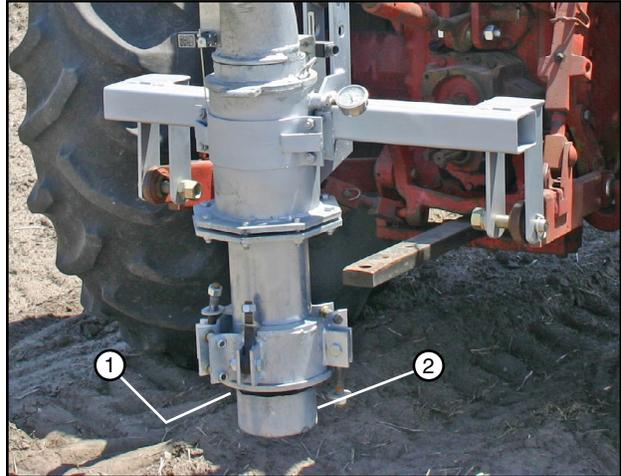

Figure 36-1 1. Seal
7. After reaching the next location make sure seal is on receiver tube. See figure 36-1.